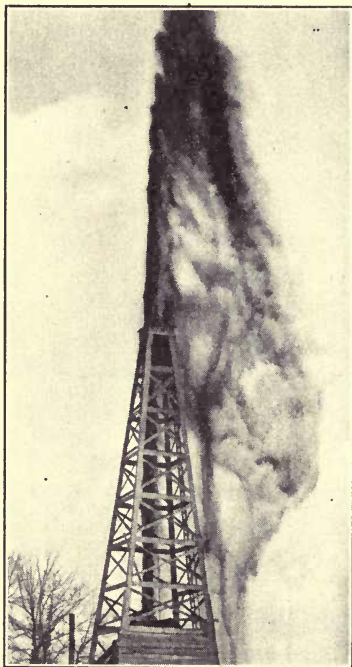

FIG. 61. — A spouting oil well.
**Petroleum.** In many sections of our country, as in Pennsylvania, Texas, and California, far below the surface of the earth, large deposits of a thick, oily liquid exist. This liquid, called crude petroleum, is obtained by drilling wells (Fig. 61). Crude petroleum is not made up of one chemical compound, but contains a large number of compounds, and these are separated and prepared for use by distillation.